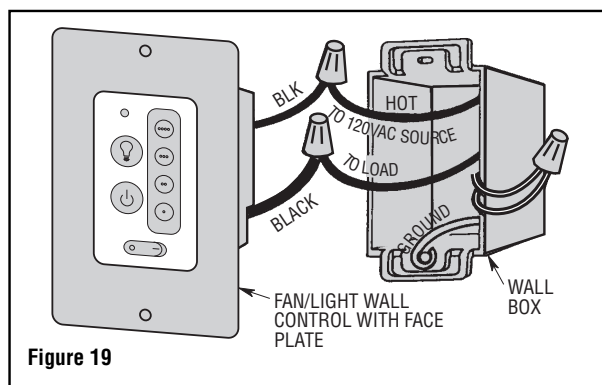

Figure 19
12. Connect one black wire of wall control to the “hot” wire. Securely connect wires with wire connectors supplied (Figure 19).